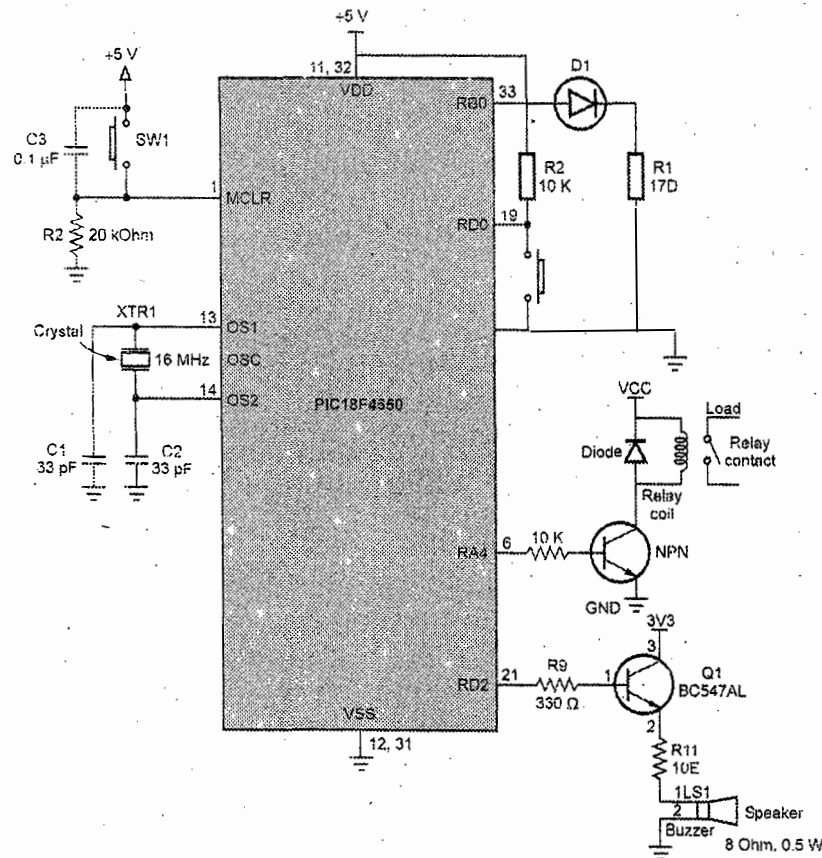

Fig. Q.13.2 Minimum component test system
**Ans. : Design of PIC test Board :** Fig. Q.13.2 shows the design of PIC test board for verifying the LED connected to port B, with switches and buzzer to port D, with relay interface for Port A.